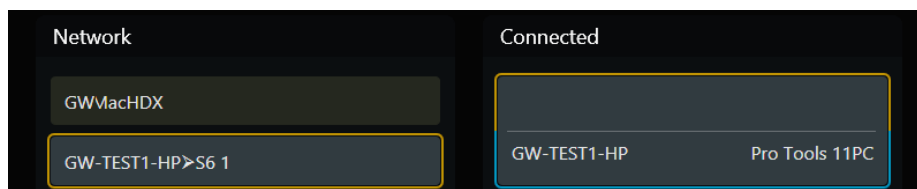

Figure 9. Connected workstation
- In Figure 9, the workstation in the Connected list is selected and attended, and Pro Tools is the focused application.